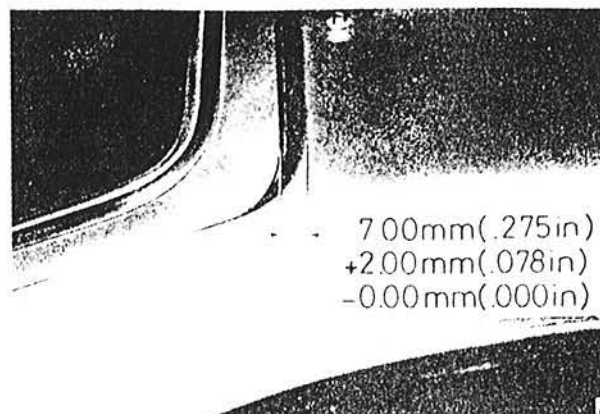

Fig. 11.16 Tailgate-to-roof edge alignment (Sec 27)
- 4 When installing, align the tailgate so that the edges are flush with the rear of the roof and the C-pillar sides, and the gap between the tailgate and the roof edge is 7 to 9 mm (0.3 to 0.4 in) – see Fig. 11.16.